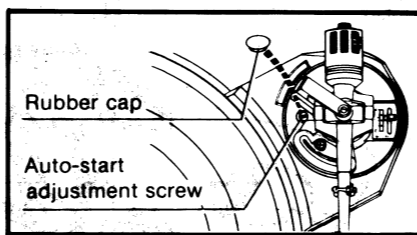

Fig. 16
2. Remove the rubber cap. (Fig. 16)